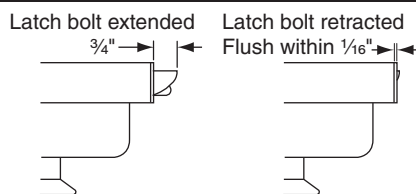

Figure 1
2. Depress pushbar and make sure latch bolt retracts and extends fully (see Figure 1).